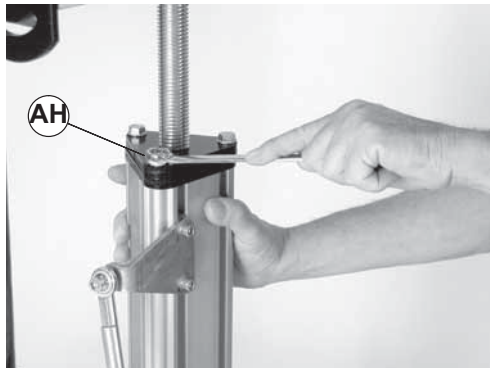

Figure 20
5. Loosen the three tri-lobe hex head screws (Figure 20, item AH).
<p>Failure to secure screws (Figure 20, item AH) may cause conveyor sections to drop down, causing severe injury.</p> <p>TIGHTEN ALL SCREWS (AH) AFTER ADJUSTMENT.</p>
7. Re-tighten tri-lobe hex head screws (Figure 20, item AH) to 100 in-lb (11 N-m).